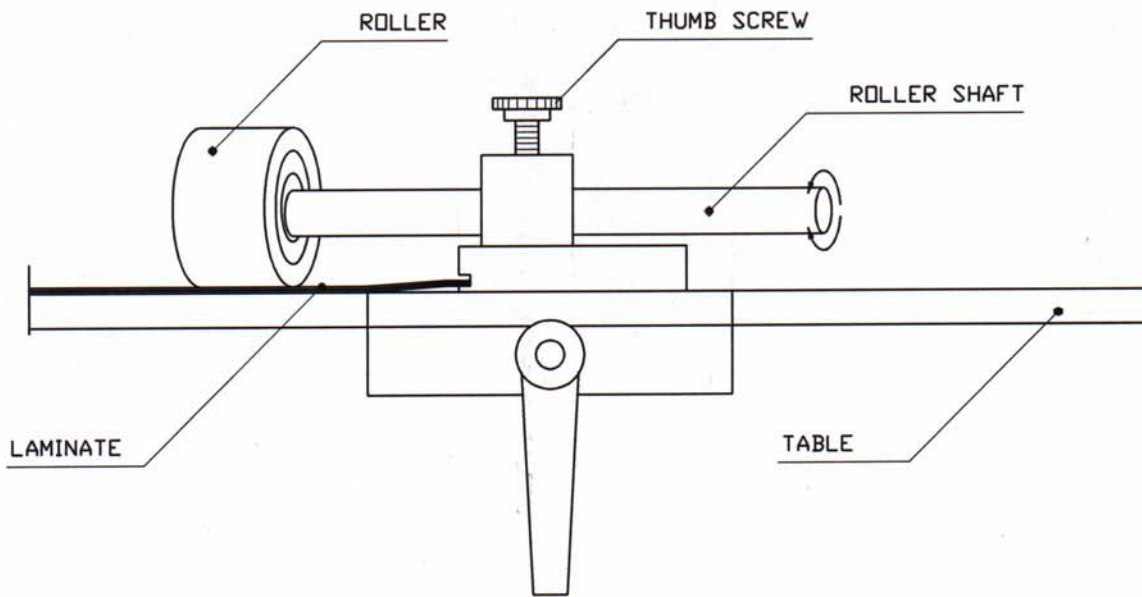

FIG. 4
- c) Place the laminate under the roller (see Fig. 4)